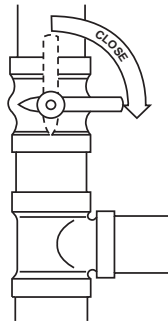
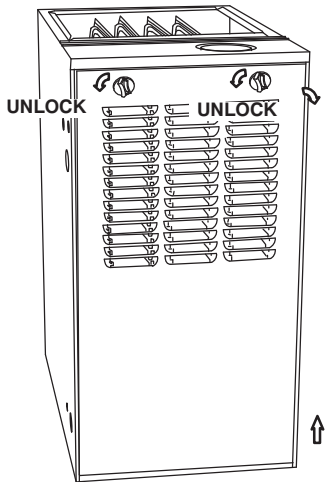

Fig. 4 – Close Valve
Fig. 6 – Remove Furnace Door
2. Close the external manual gas valve, see Fig. 4.
- Remove the outer door by loosening the thumbscrew and pulling the door forward, see Fig. 6.
4. Remove outer furnace door, see Fig. 6.
1. Turn off electrical supply to the furnace and remove the access door, see Fig. 4 and Fig. 6.